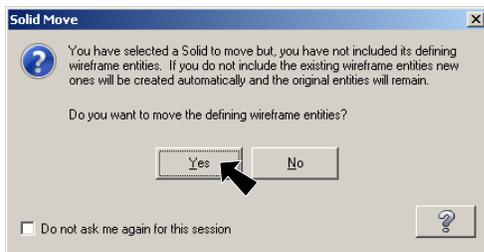

Fig. 50
Step 6. Click Yes to move defining wireframe entities, Fig. 50.